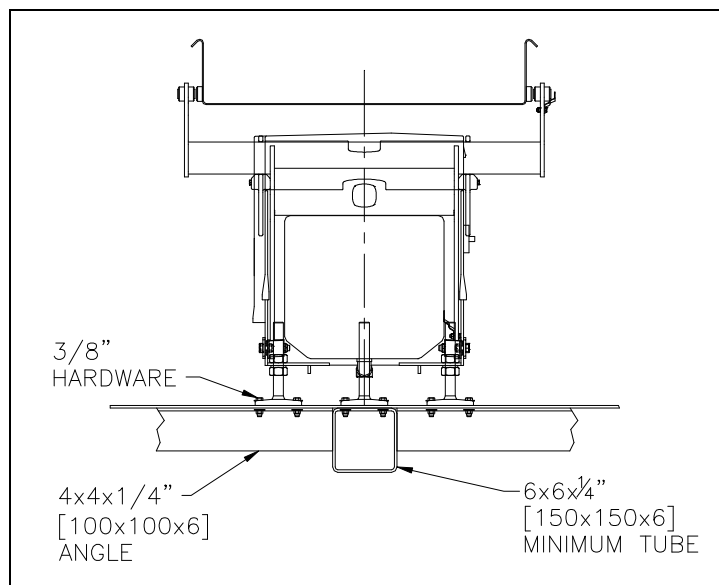

Figure 3-5 – Support Structure for Articulating Feet
- If the FastBack® Model 260E-G2 is to be placed directly on the deck, the articulating feet should be bolted through to a 4x4x1/4-inch [100x100x6 mm] piece of angle iron (or other structural equivalent) which is in-turn welded to the central spine described above (see Figure 3-5). **Do not bolt the FastBack® to the deck alone.** This will result in unacceptable vertical movement of the drive on top of the deck plate.